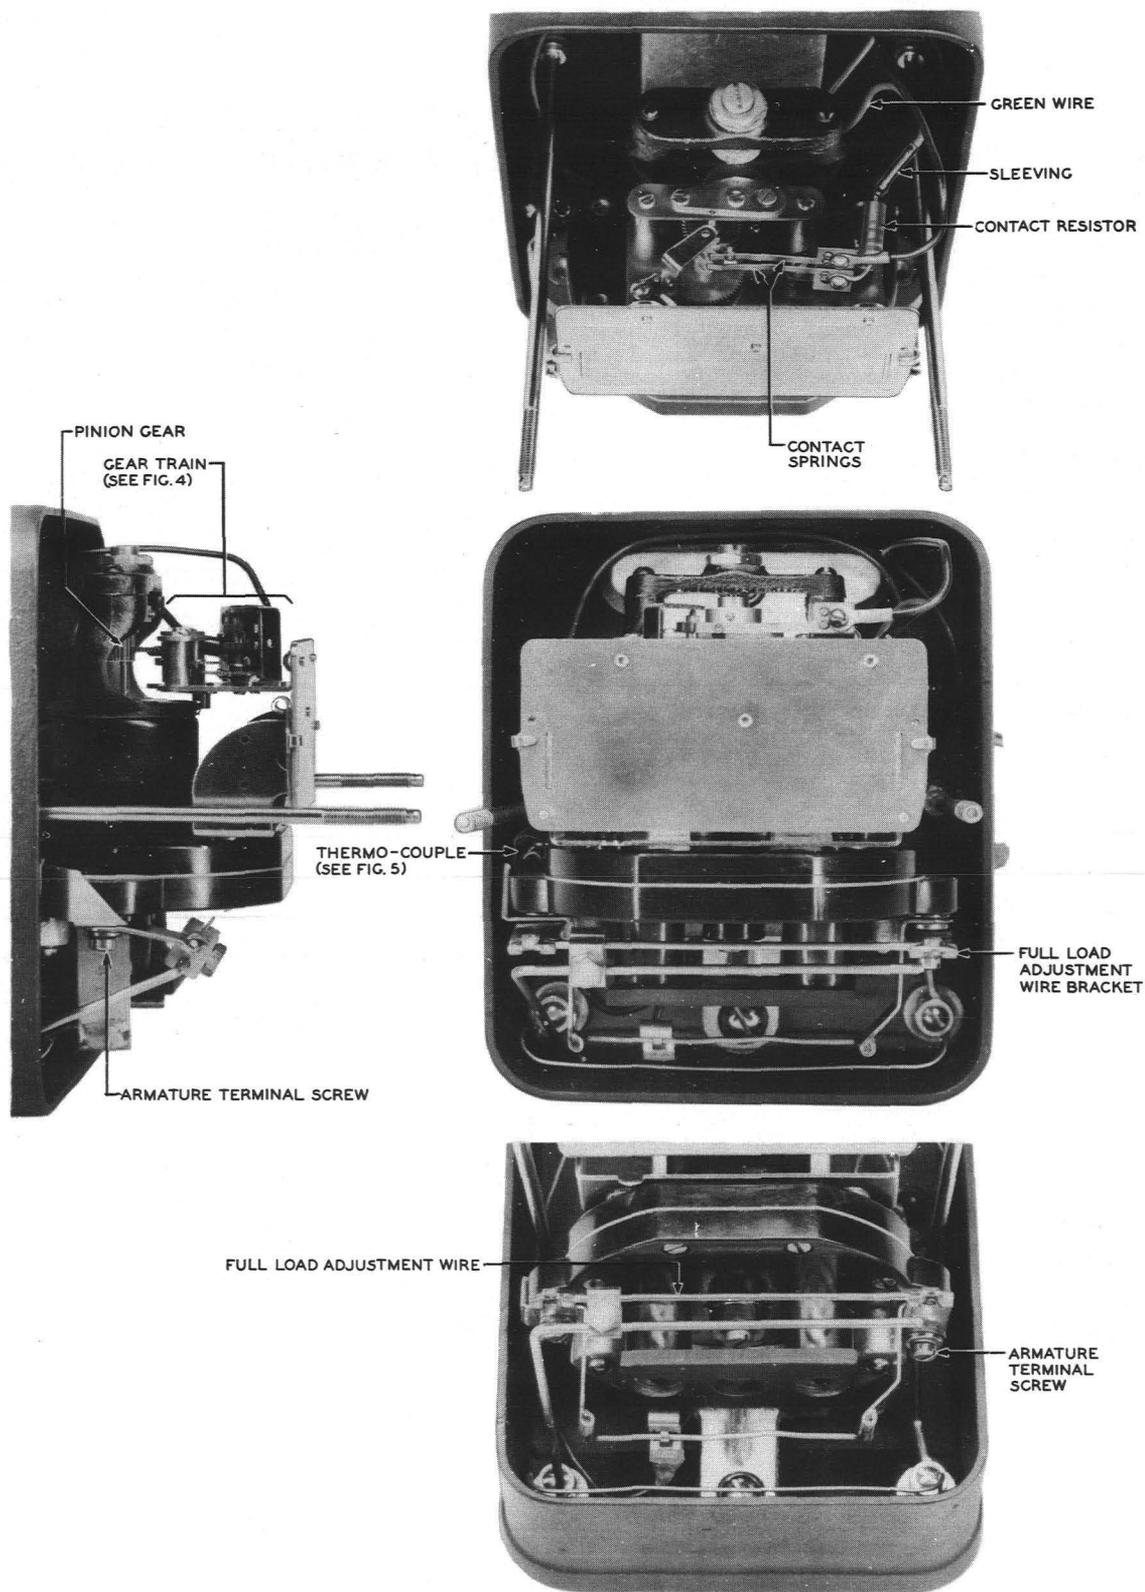

Fig. 3 - Assembly View With Cover Off
(1) To replace a cover gasket, clean out the old gasket from the recess. Wipe recess with petroleum spirits. Shellac the recess with a light coat of shellac. Fit in a new gasket, pressing it in contact with the cover at all points. Remove any excess shellac and allow to dry.
3.10 Contact Resistor (See Fig. 3)
(1) To replace the contact resistor, remove the screw and washer holding the resistor lead to the terminal block for the contact springs. Unsolder the green wire or cut it close to the sleeving on the other lead to the resistor. If the wire is cut, skin back a short length (3/8 inch) from the end of the wire. Form a small eye on the end of one of the leads of the replacement resistor. This should be similar to that on the old resistor. Push a 1-inch length of 1/8-inch diameter sleeving over the skinned end of the green wire. Solder the wire to the other resistor lead. Force the sleeving over the soldered joint. Remount the screw and washer to hold the resistor lead with the eye to the contact spring from which it was removed.
3.11 Contact Springs (See Fig. 3 and 4)
(1) If contacts or contact springs require replacing, the entire gear train must be replaced as described in 3.12.
3.12 Gear Train (See Fig. 3 and 4)
(1) To replace a gear train, note the positions and remove the two leads on the contact springs. Release both gear train latches by moving them down to a horizontal position, thereby releasing the gear train. Place the new gear train in position making sure that the fibre gear of the train is properly meshed with the pinion gear. Lock the latches in position and reconnect the wires to their respective contact springs.
3.13 Thermocouple (See Fig. 3 and 5)